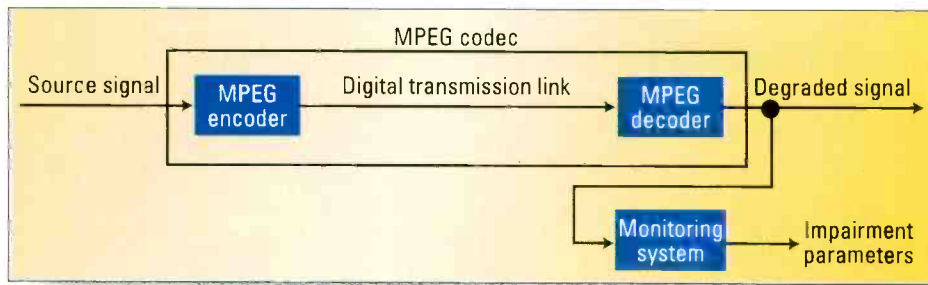

Figure 3. Single-ended test setup
• *Single-ended testing method:* As shown in Figure 3, this approach analyzes the received signal for known artifacts and other defects resulting from transmission or the encoding process. Among the impairments tested are “blockiness” resulting from the re-quantizing and variable length